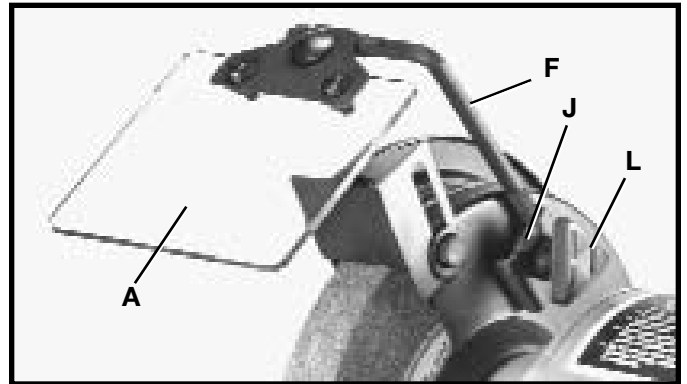

Fig. 8
3. Assemble long end of eye shield mounting rod (F) Fig. 8, to the side of each wheel guard using bracket (J), 3/8" lockwasher and locking knob (L). The eye shield (A) is fully adjustable so it can be put in any position by moving the shield (A) or loosening locking knob (L) and repositioning rod (F).